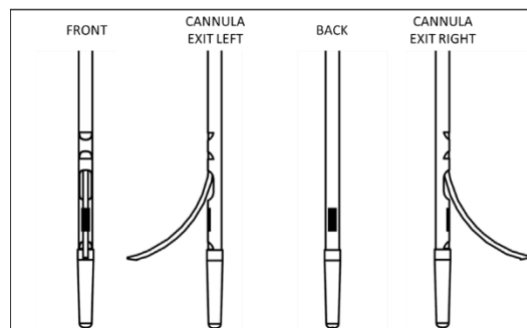

Figure 1: Cannula Nosecone with Cannula Exit Port
7. After gaining vascular access, introduce the LimFlow ARC and crossing guidewire into the vasculature. Verify that the cannula tip is fully retracted back into the shaft and the catheter is straight. Back load the 0.014" tracking guidewire into the LimFlow ARC through the distal end port (D) of the nosecone. Confirm the exit of the guidewire from the proximal rapid exchange port (E).
12. Using the radiopaque marker as a guide, orientate the cannula exit port of the LimFlow ARC towards the desired vascular target site via rotation of the Rotating Knob (**Figure 1**). The flat radiopaque marker is offset from the center of the ARC in the direction of the cannula. When the radiopaque marker appears thinnest, offset in the direction of the crossing/re-entry site, the cannula is aimed correctly at the target location.